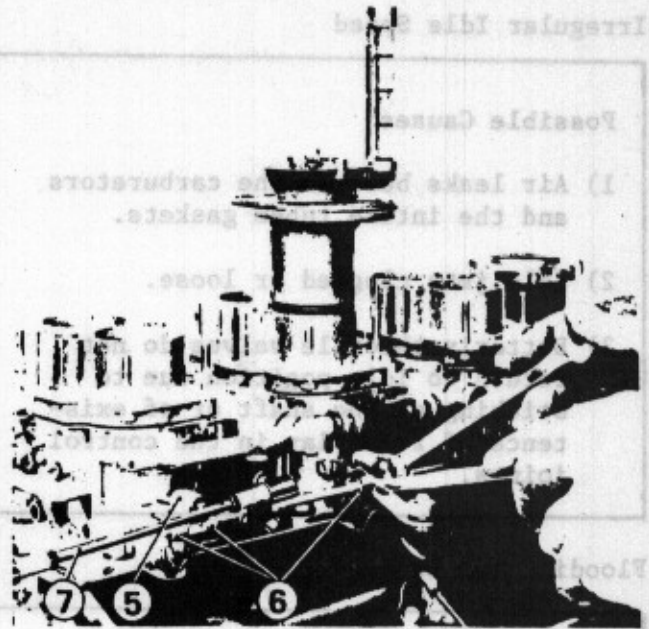

Fig. 48 Adjustment of butterfly valves at carburetors 1 and 2.
- Remove the air filter and detach the control lever 7 (fig. 48) of the throttle butterfly relay lever.
- If the float is not within these limits, loosen the nuts 6 (fig. 48) which will move the butterfly control lever until the float is in the correct position. Should the engine speed change, it is necessary to return to the original setting by manipulating screw 3 of carburetor 3. Tighten the nuts controlling the position of the butterfly control lever making sure that this does not produce a tightening of the control.